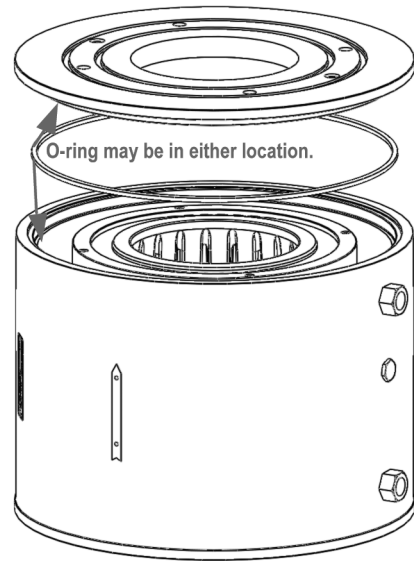

Figure 13 - Remove outlet body sleeve O-ring.
- Remove the outlet body sleeve O-ring as shown in Figure 13 below. Depending on the assembly, the O-ring may come out with the cover plate or may remain inside the Surge Reliever body.